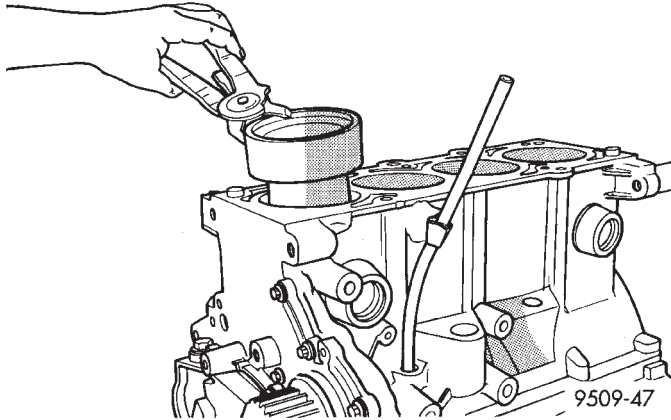

Fig. 93 Installing Piston
(3) Immerse the piston head and rings in clean engine oil, slide the ring compressor, over the piston (Fig. 93). **Be sure position of rings does not change during this operation.**